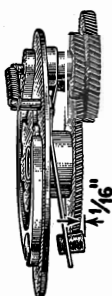

Figure 4—Adjustment of damper pads
- (c) Improper Adjustment of the Damper Pads. The damping pads with the necessary springs are provided to place a load on the 33 $\frac{1}{3}$ R.P.M. driving gear at all times while it is in operation. Placing such a load on the gear takes up any possible play and reduces the possibility of a "wow" during operation at the slower speed. Adjust these pads by slipping each spring to one side and bend them until they are $\frac{1}{16}$ " beyond the opposite surface upon which they rest. (See Figure 4).
(2) ADJUSTMENT OF MAGAZINE ROLLER